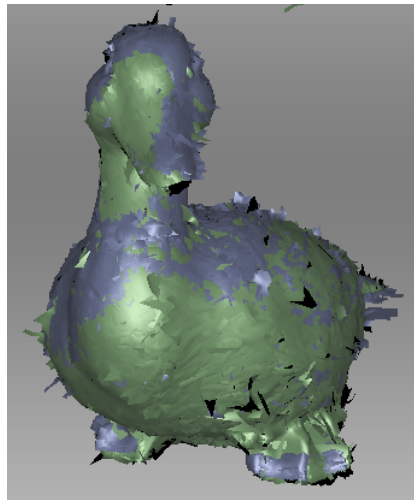

Figure 70: “Drag” alignment result
3. To confirm the alignment, release the mouse button(s) and the `Shift` key, then click *Apply*. Note carefully that any scans you are registering won’t automatically move to the registered set ● (see Figure 70). You can do so manually as the *Changing Scan Status* describes.